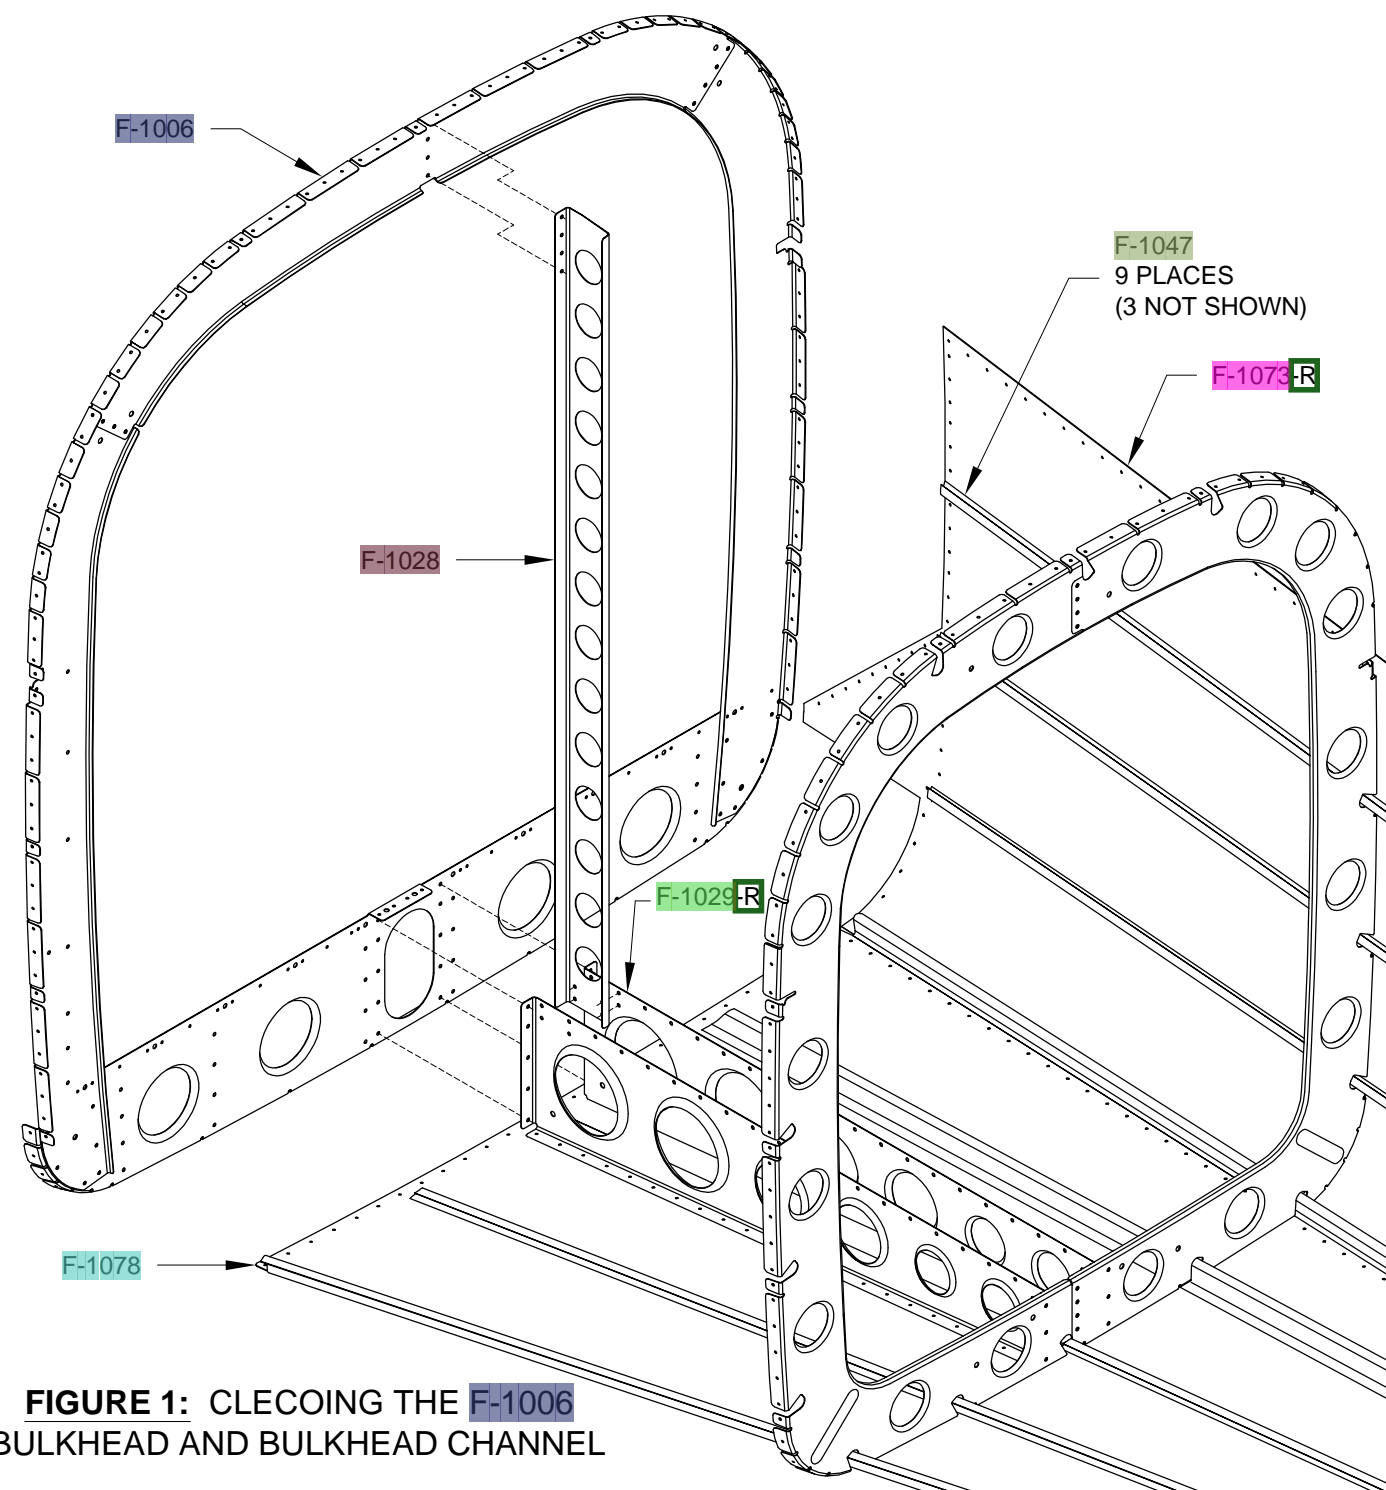

FIGURE 1: CLECOING THE F-1006 BULKHEAD AND BULKHEAD CHANNEL
Step 1: Cleco the F-1006 Bulkhead to the F-1073L, F-1073R, and F-1078 Skins and to the F-1029-L & -R Bellcrank Ribs as shown in Figure 1. The F-1032 Longerons, the F-1073L Side Skin, and the F-1047 Stiffeners attached to the side skin are not shown for clarity.